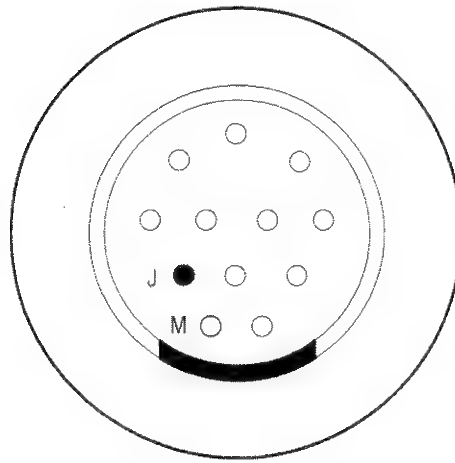

Figure 6–4: Current Probe Connector Configuration
6. Disconnect the BNC cable from the calibration generator and attach it to the Amplifier **OUTPUT** connector (see Figure 6–3).
11. Remove the probe access plugs for HF1, HF2, and HF3. Remove the HF2 plug only for the A6303 (see Figure 6–2).
1. Measure and record the resistance between pins M and J of the current probe connector. See Figure 6–4. Use the value measured for R_x in step 2.
The graph in Figure 6–5 can be used to approximate the error correction factor for the probe.